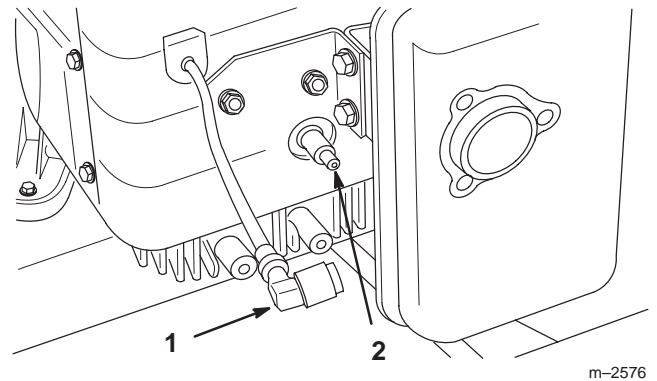

Figure 30
3. Disconnect the wire from the spark plug (Fig. 30).
3. Connect the wire to the spark plug (Fig. 30).